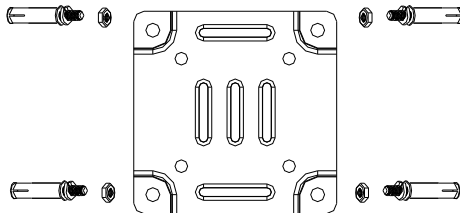

Figure 2-22 Attach the Installation Plate
3. Fix the installation plate and insert M10 \times 80 expansion screws into the screw holes, as shown in Figure 2-22.